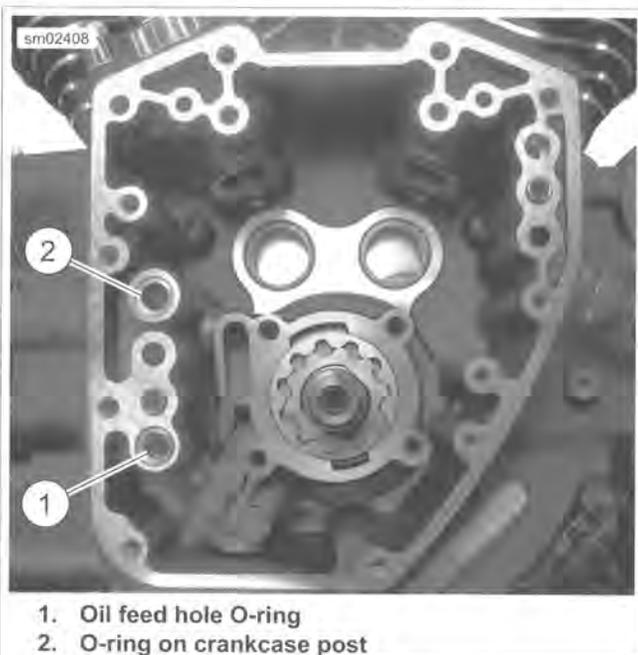

Figure 3-114. Oil Pump O-rings
4. See Figure 3-114. Remove and discard O-rings (1, 2).